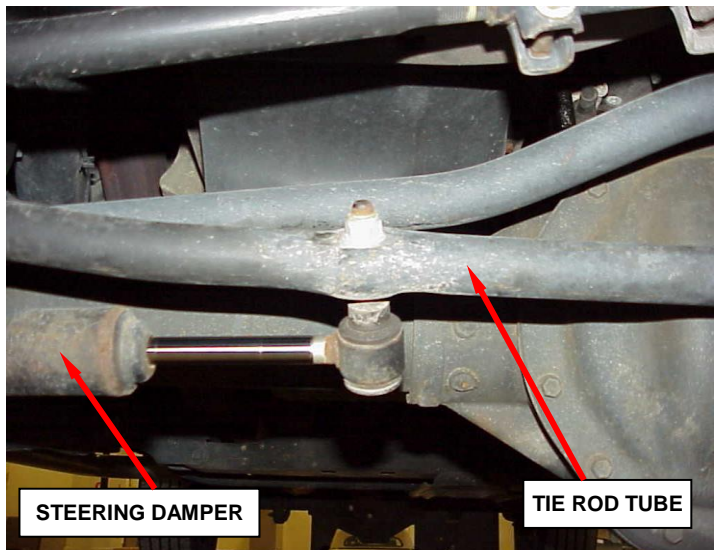

Figure 1 – Steering Linkage
NOTE: The initial steering linkage inspection process (Section A. of the service procedure) can be done by write-up personnel in the write-up area. Vehicles found with the steering linkage shown in Figure 1 can be immediately returned to the customer. See the “Completion Reporting and Reimbursement” section of this recall for special claims processing information.
- If the steering damper mounts to the tie rod tube as shown in Figure 1, the steering linkage does not require replacement. Return the vehicle to the customer.